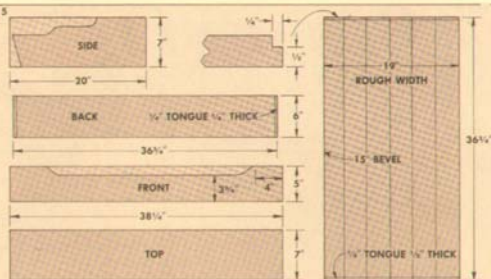

FIGURE 6
**THE SIDES.** Work begins with the sides. First, the boards for the sides are cut to a width (7"). Then, before cutting them to length, make a 15° miter cut on the front edge of each piece, Fig. 6.
Lay out the 1 1/2" radius curve so it ends 6 1/2" from the back edge, and also mark the gentle S-curve at the center of the top edge, Fig. 6. Finally, the top edges and the outside bottom edge of the sides are chamfered (I did this on a router table).
**THE TOP.** The top is cut to width so it hangs 1/2" over the radius curve on the sides. The length is the same as the front piece (extending 1/4" out from the sides). Also, three edges are chamfered, Fig. 6.